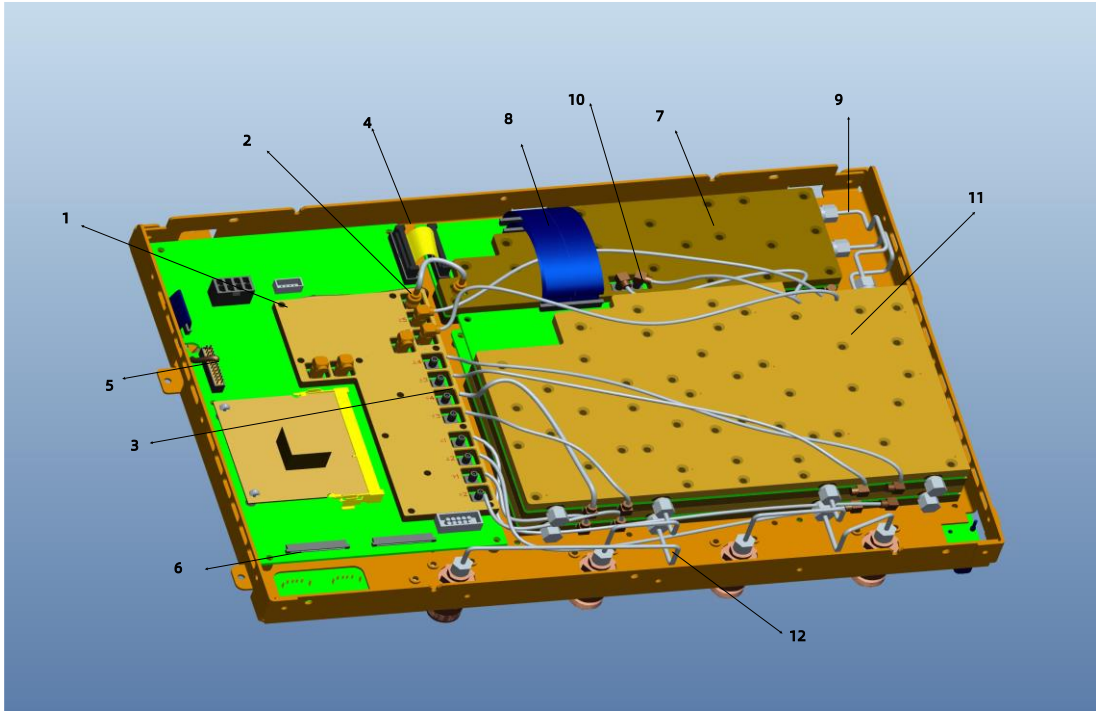

Figure 8-7 Mb panel, LO panel, TX panel removal
2. With a T-10 TORX driver, remove the four screws (item ③) from the N adapter Assembly
3. Disconnect the steel wire (item ⑫) from the TX board Refer to Figure 8-7
1. Refer to Figure 8-7 for this procedure.
2. With a T-10 TORX driver, remove the screws (item ①) on the Mb Panel.
3. Disconnect the cables from the A1 Mb board. 160M clock cables (item ②), Intermediate frequency lines (item ③), 24pin Ribbon cable (item ④), Screen line (item ⑤), USB Soft line (item ⑥)
2. With a T-10 TORX driver, remove the screws (item ⑦) on the LO Panel.
3. Disconnect the cables from the A15 LO board. 2.4G clock cables (item ⑩), Soft line (item ⑧), steel wire (item ⑨)
2. With a T-10 TORX driver, remove the screws (item ①) on the TX Panel.
3. Disconnect the cables from the A13/A14 TX board, steel wire (item ②)